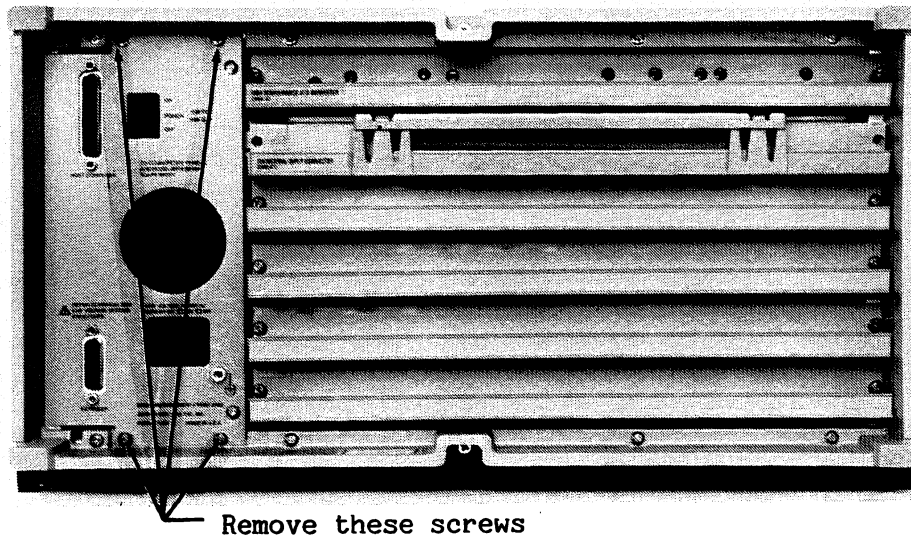

Figure 7-1. Power Supply Removal Screws
3. Remove the four phillips-head screws indicated in Figure 7-1 below.